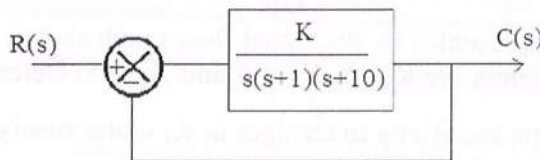

Figure 3
11. Consider the system shown in Figure 3. Draw the Bode-diagram of the open-loop transfer function $G(s)$ with $K = 1$. Determine the phase margin and gain margin. Find the value of K to reduce the phase margin by 10° . [10]